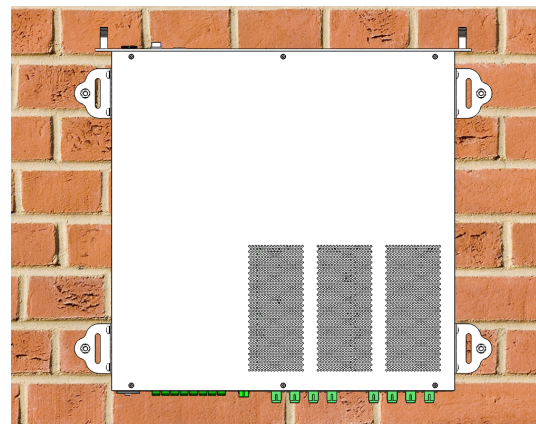

Figure 3-9
5. Fix the NEU onto the mounting rack by tightening the M6x60 expansions bolts using adjustable wrench. Make sure the NEU is tightly fixed to the mounting rack and installation is complete. reference to Figure 3-9.